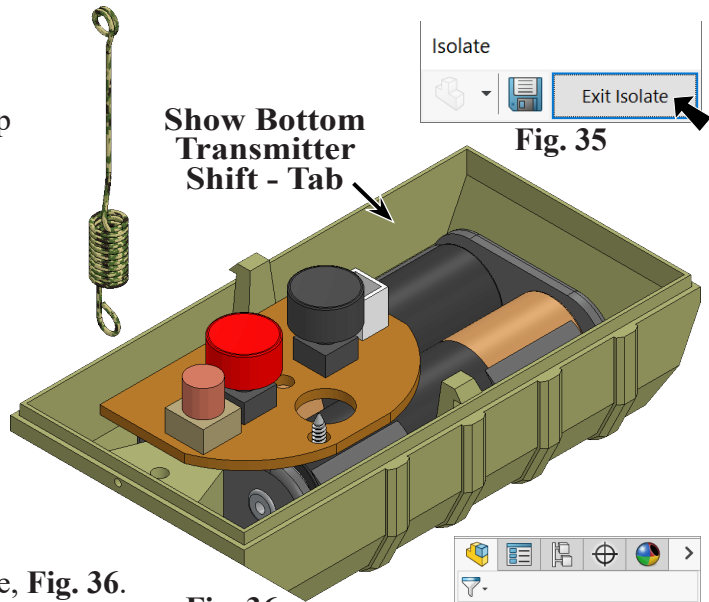

Fig. 36
Step 2. **Show Bottom Transmitter**  part, **Fig. 36**. To show, move cursor over the component in graphics area and press **Shift - Tab**.
Step 4. Select your ANTENNA file and place, **Fig. 36**.